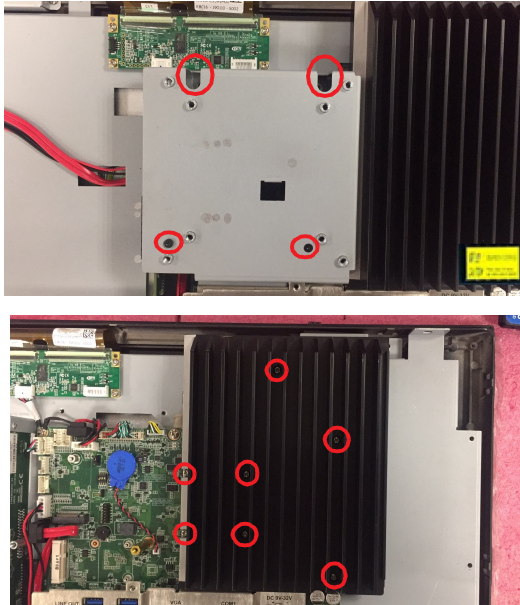

Figure 2.9
3. First remove the yellow warning tag, then remove the screws circled in red in Figure 2.9, and take out the reinforcement plate and CPU heat sink.